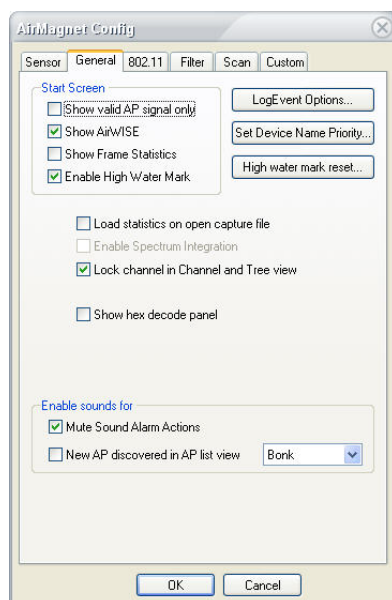

Figure 16-1: AirMagnet SmartEdge Sensor Name
- 1) From the AirMagnet Remote Analyzer screen, click **File>Configure...** and select the General tab. The *AirMagnet SmartEdge General Configuration* screen appears. See Figure 16-1.